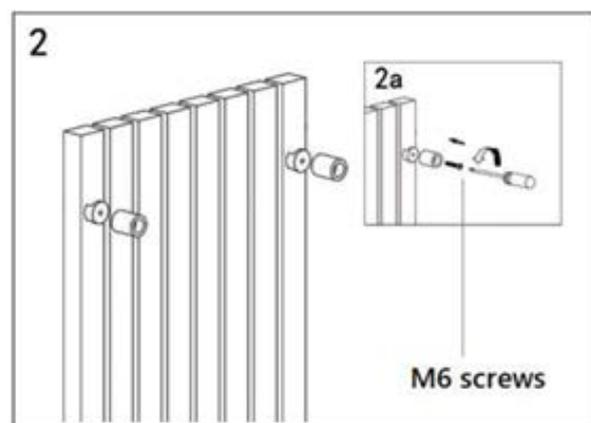

Figure 3 | Fixing the radiator brackets
2. Attach the Radiator Brackets (A) to the back of the radiator using the M6 Screws (B), as shown in **Figure 3**.